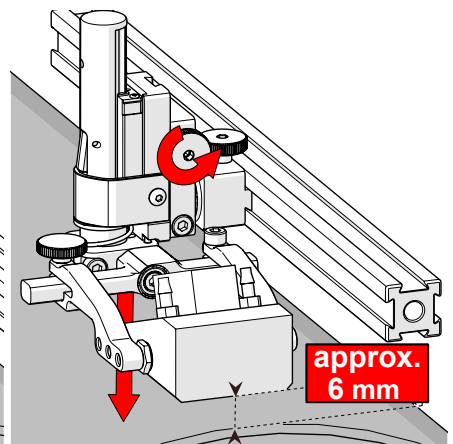

Fig. 39 - Lower toward scan surface
2. Loosen the vertical adjustment knob and slide the probe holder down until the wedge is approximately 6 mm (¼ in) above inspection surface (Fig. 39).
3. Tighten the vertical adjustment knob (Fig. 39).